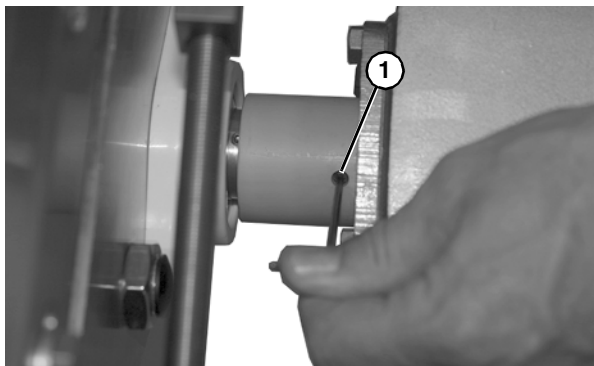

Figure 28
7. Rotate spacer, as needed, and tighten set screws (**Figure 28, item 1**) on inner gearmotor bearing.